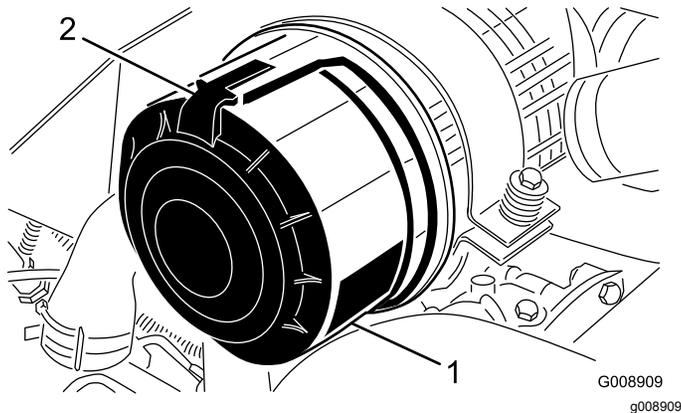

Figure 96
1. Release the latches securing the air-cleaner cover to the air-cleaner body (Figure 96).